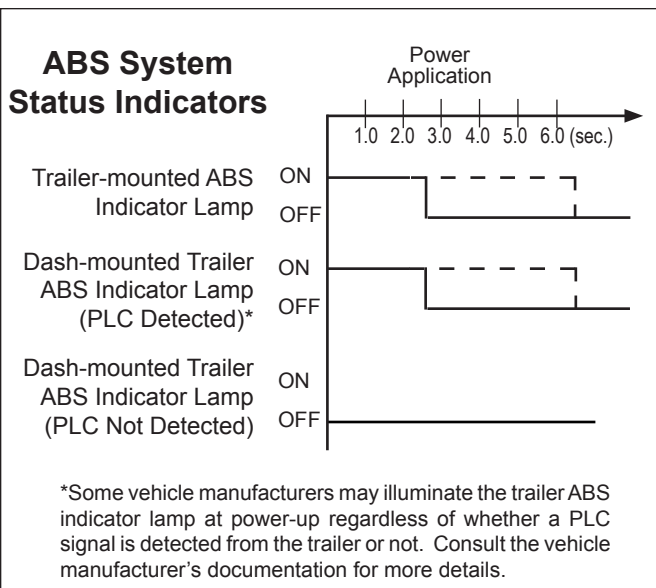

FIGURE 9 - TRAILER ABS LAMP POWER-UP SEQUENCE
At power-up, with no detected Diagnostic Trouble Codes (DTCs), the trailer ABS indicator lamp will illuminate for approximately two (2) to six (6) seconds as a bulb check and then turn off. *See Figure 9.*